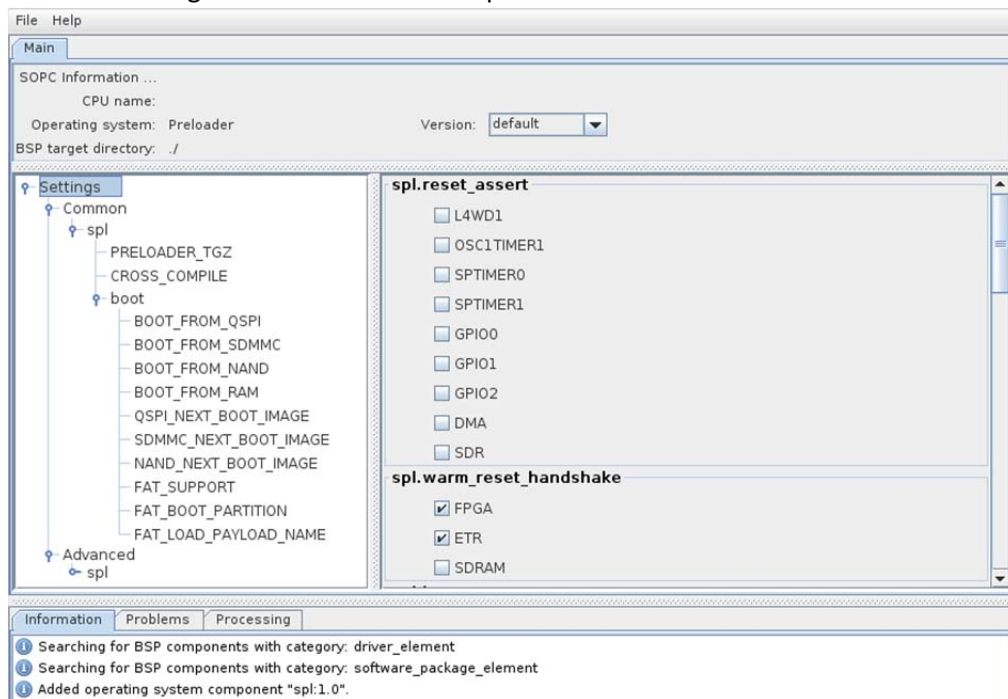

Fig. 42: Preloader Settings Dialog
7. Press the “OK” button. You should then arrive at a page with many settings, as shown in Fig. 42. The **New BSP** window will have all the settings populated, based on the handoff folder. Take some time to read through them to see what the preloader can do.